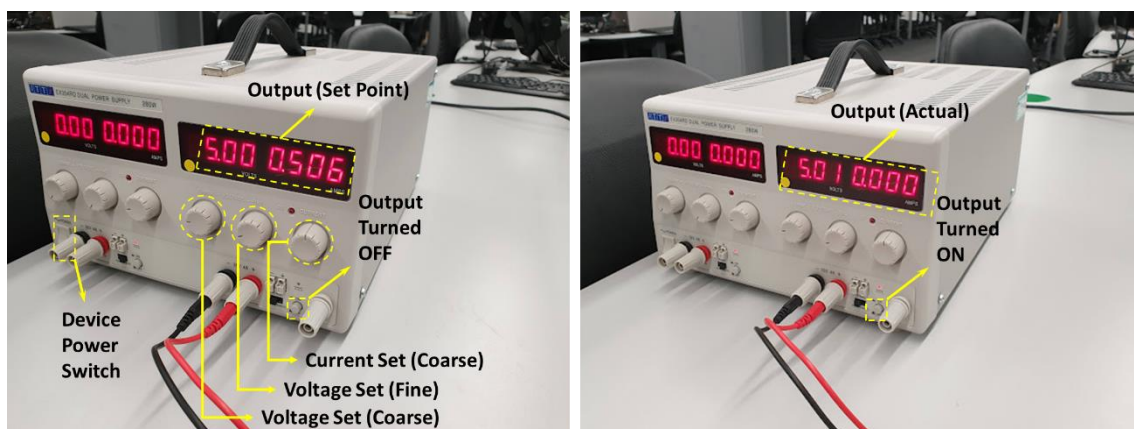

Figure 16 Using the Power Supply Device
3. Switch the PSU on and ensure the ON/OFF button is in OFF. When it is OFF, the screen displays the set-point voltage and current limits (see Figure 16).